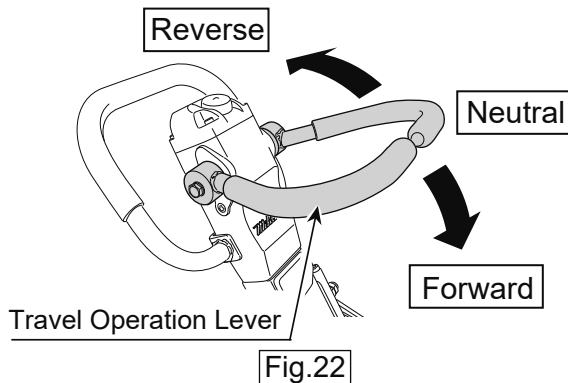

Fig.22
- 2 Operate the travel operation lever to move the machine forward or reverse. The travel operation lever is normally in the forward position and the machine automatically moves forward. When pulled it to the reverse position, the machine moves reverse. In the neutral position, the machine compacts staying the same spot. (Fig.22)